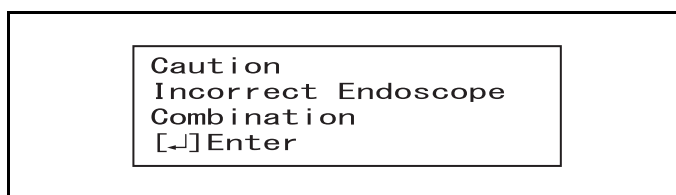

Figure 5.4
- Two endoscopes may not always be tested simultaneously depending on the compatibility of the endoscopes. Refer to the “List of Compatible Endoscopes <ALT-Pro>” for the endoscopes that cannot be tested simultaneously. If you attempt to have this equipment recognize the second ID, the panel will display the message as shown in Figure 5.4, and the scope ID cannot be detected. Press the ENTER button to restart the user ID detection procedure.